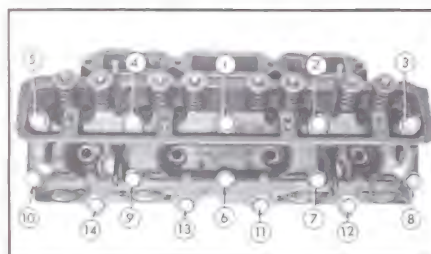

Figure 2-24—Cylinder Head Bolt Tightening Sequence
(1) When handling thin crimped steel gaskets use care to prevent damage to the lacquered surface coat and to prevent kinking at sealing rings stamped in gasket. The lacquered gasket should not be coated with any type of sealing material when installed. Always use a new steel gasket because the stamped sealing rings are flattened in a used gasket.
(2) Right and left cylinder heads are identical except that the water inlet port is open at front end and is plugged at rear end as installed on engine.
(3) After installation of cylinder head, tighten all bolts a little at a time about three times around in sequence shown in Figure 2-24, then finally tighten in same sequence to 65-75 ft. lbs. torque.